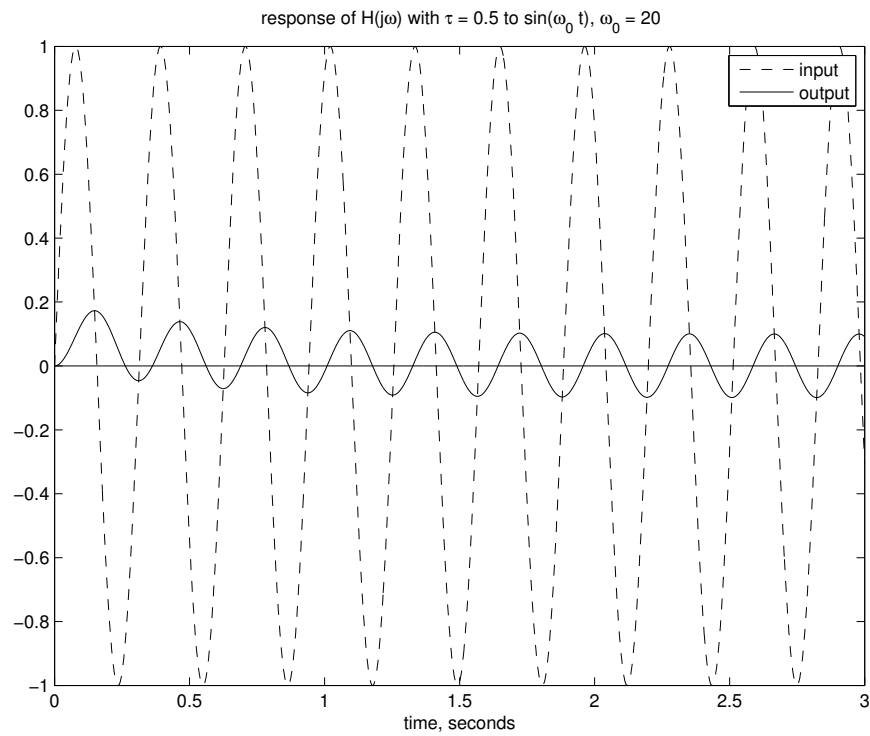

Figure 2: Time Response with $\tau = 0.5$ for Input $u(t) = \sin 20t$.
- (d) SOLUTION: The time response is plotted in Figure 2. Note that, after an initial transient which decays with the time constant of the filter, the steady state output response has an amplitude of 0.1 and lags the input by almost 90° . These values do agree with the frequency response plots.